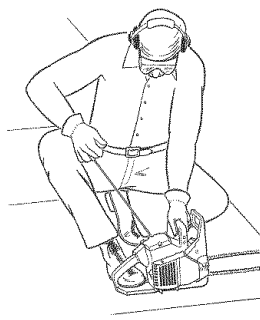

Fig. 7
7. Place the saw on a firm flat surface. Hold saw firmly as shown (Fig. 7).
10. Let the saw warm up for 10 seconds. Depress and release trigger (F) for idle (Fig. 7).